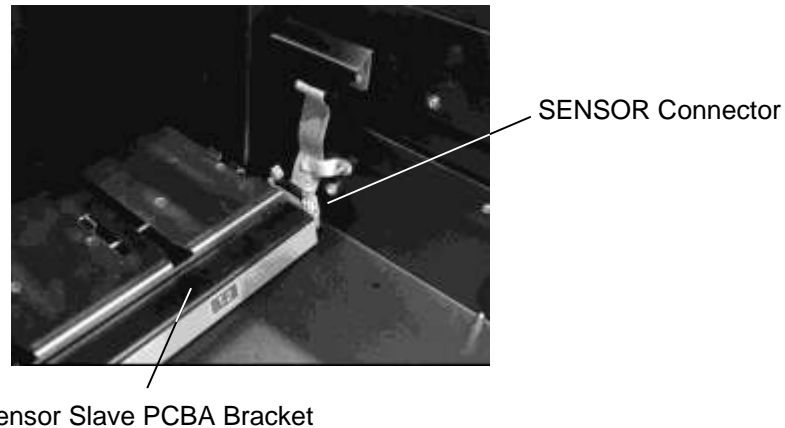

Figure 7-38 The Sensor Slave PCBA Bracket and SENSOR Connector
1. Disconnect the ribbon cable from the SENSOR connector on the right side of the PCBA as seen from the front of the RLS. See Figure 7-38.
3. Reconnect the ribbon cable to the SENSOR connector on the right side of the PCBA as seen from the front of the RLS. See Figure 7-38.